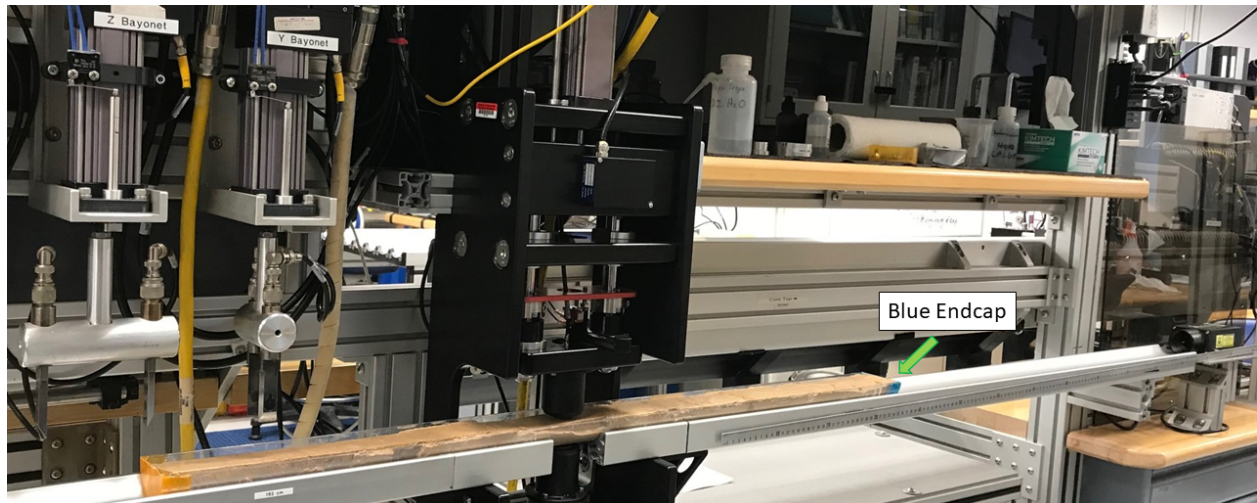

Figure 3. Correct core position.
2. For section halves, place the desired measurement location underneath the desired sensor. Make sure that the section is oriented with the blue end-cap towards the laser (Figure 3).